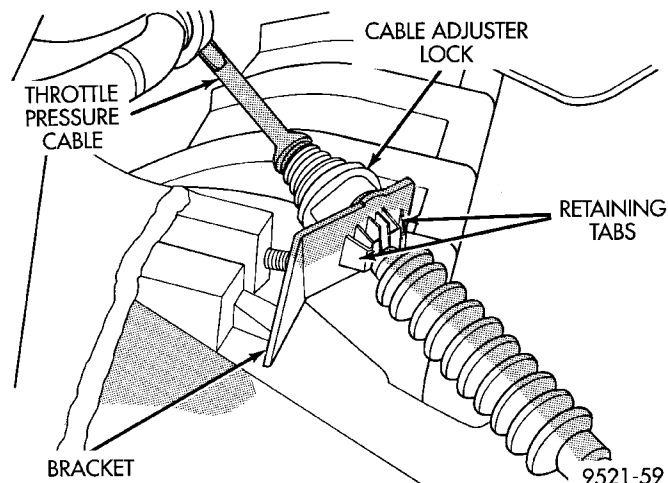

Fig. 206 Throttle Pressure Cable Adjuster Lock
- (1) Perform transaxle throttle pressure cable adjustment while engine is at normal operating temperature.
- (2) Release cross-lock on the cable assembly (pull cross-lock upward) see (Fig. 206).